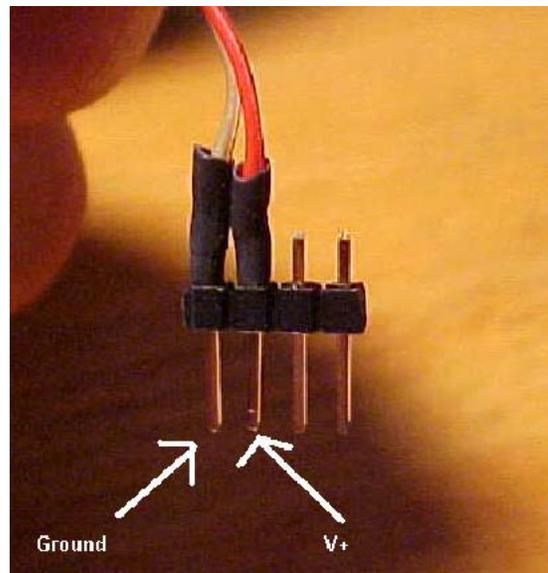

Figure 1 Power Cable Connector
1. You will need to make a power cable for your robot to get power from your batteries to your protoboard. TekBots has adopted a 'keyed' connector system for power. This means that in order to work correctly you can only insert your power cables one way. This will help protect you as well as your TekBot. An example of this can be seen in Figure 1. To do this the cable is constructed from two four-position male headers on each end of a two wire cable. Only two of the pins on each connector are used. Make sure that the wires are connected to corresponding pins on both connectors. Figure 2 shows the cable. A female connector strip is used to hold the male connectors while soldering. When soldering wires to the connectors, I recommend tinning the wire and the pin first. Additional solder is usually not needed when you solder the wire to the pin. Insert one end of the cable into the female sockets on the charger board. The two unused male pins on the connector will be over the unused holes on the charger board. See Figure 3.